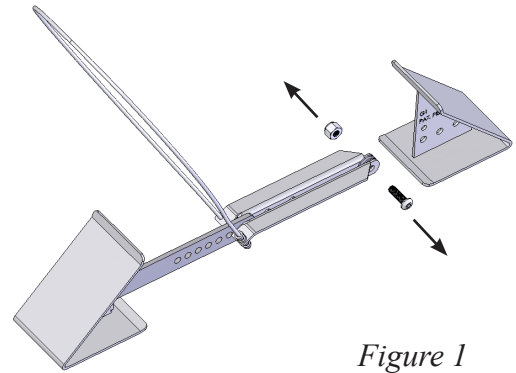

Figure 1
1) Remove the chock and other parts from the packaging. Remove the bolt and nut holding the double arms to the wedge using the hex key provided for adjustments, and a 9/16" socket. See Figure 1.